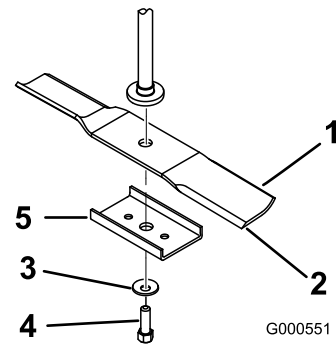

Figure 48
2. Remove the blade bolt, curved washer, and blade from the spindle shaft (Figure 48).
1. Install the blade onto the spindle shaft (Figure 48).
2. Install the curved washer (cupped side toward the blade) and the blade bolt (Figure 48).